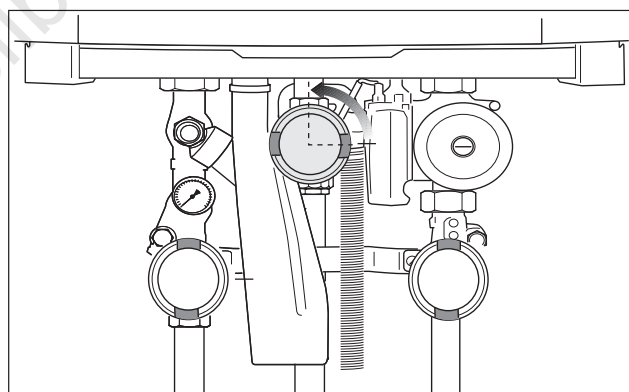

fig. 83 Open the gas valve
- Slowly open the gas valve by pushing on the gas valve and turning it ¼ rotation in an anticlockwise direction (fig. 83). The gas valve is open when it is in the vertical position.
- Open the gas valve again by pushing on the gas valve and turning it ¼ rotation in an anticlockwise direction (fig. 83).